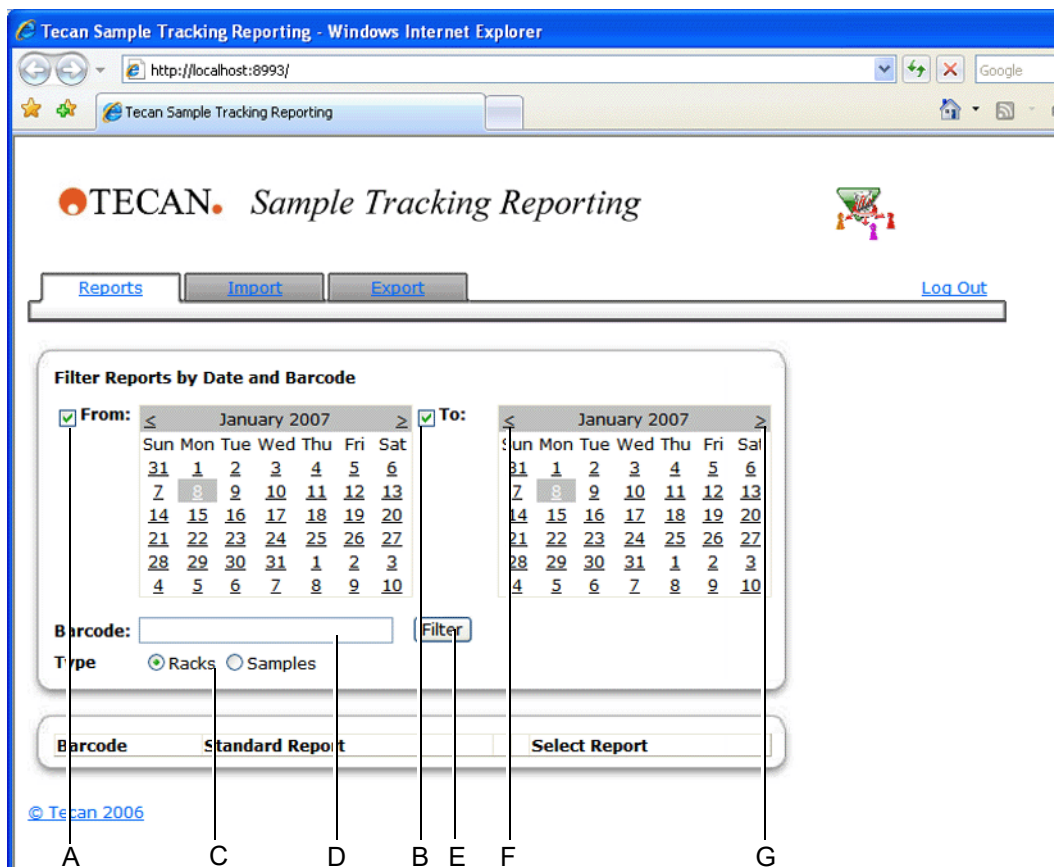
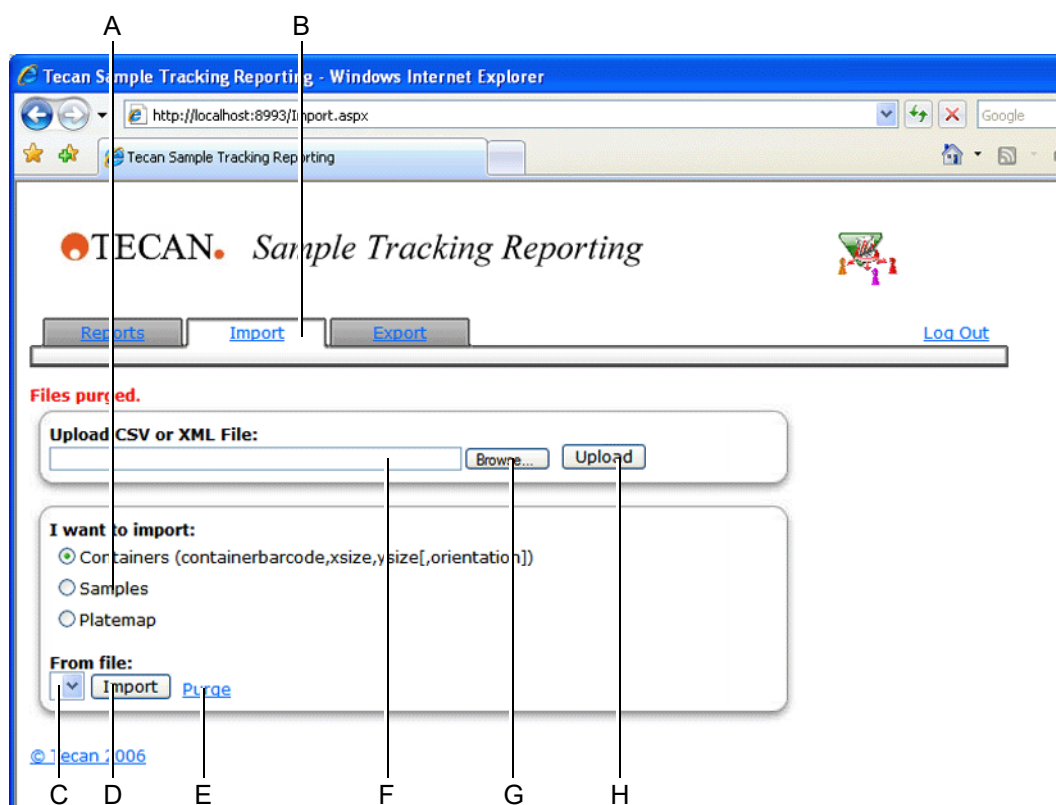

Fig. 7-3 Tab Reports
Fig. 7-6 Tab Import
- 1 Tick the period check box **From** (A) Fig. 7-3, Fig. 7-6.
- 3 Select the sample type option **Type** (C) Fig. 7-3, Fig. 7-6.
- 1 Tick the period check box **From** (A) and **To** (B) Fig. 7-3, Fig. 7-6.
- 3 Select a **Type** option (C) Fig. 7-3, Fig. 7-6.
- 1 Edit the barcode into the **Enter Barcode** gap (D) Fig. 7-3, Fig. 7-6.
- 2 Click **Filter** (E) to start filtering Fig. 7-3, Fig. 7-6.
- ◆ Select the tab **Import** (B) to display the import screen Fig. 7-6, 7-10: